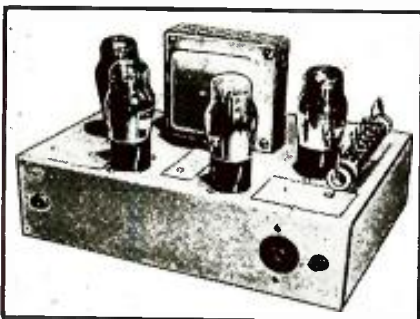

Fig. 1. Completed rectifier; extreme right, tapped keying bleeder connected across the output.
A circuit diagram of a 2-stage booster amplifier with a self-contained power supply is given in Fig. 1. This unit uses a pair of 6L6G tubes in a conventional circuit. You will note that a high-impedance input circuit is employed, which makes it excellent for bridging across the output of any amplifier. This amplifier can be connected directly to a 500-ohm tap of any standard amplifier.
SIMPLE to construct, this trouble-free system will double the rectified output from your present power transformer. Ideal for public address systems, transmitters, power amplifiers, etc., outputs up to 500 watts may be obtained from receiving tubes! See Fig. 1.
Fig. 1. The components in the photo of the Universal 25-W. Amplifier are identified as follows: (1) and (2), vibrators; (3), microphone inputs 1 and 2; (4), phono inputs 1 and 2; the controls, l. to r., are: gain controls for mikes 1 and 2, gain controls for phonos 1 and 2, and L.F. and H.F. controls; (5), l. to r., master and standby pilots; (6), l. to r., master on-off and idler switches; and (7), economizer switch.
Although 2 vibrators are shown in the photograph of the amplifier (see Fig. 1), only 1 vibrator is employed at a time. In other words, for 6-volt operation, the 6-volt vibrator (toward the rear of the amplifier) is utilized. For 110/220 volts D.C., the other vibrator is used. For A.C. operation, neither vibrator is employed.